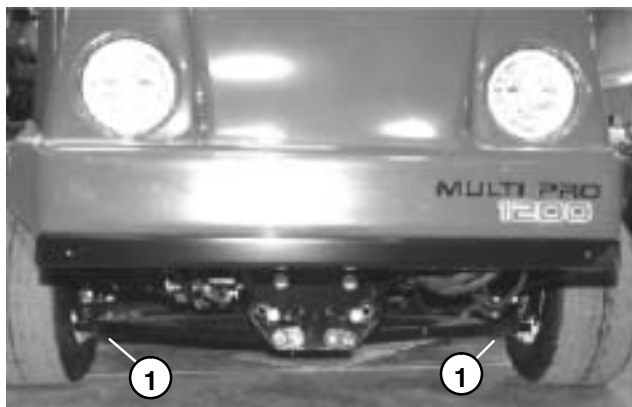

Figure 1
2. Position jack securely under the A-arms, just to the inside of the front tire (Fig. 1).